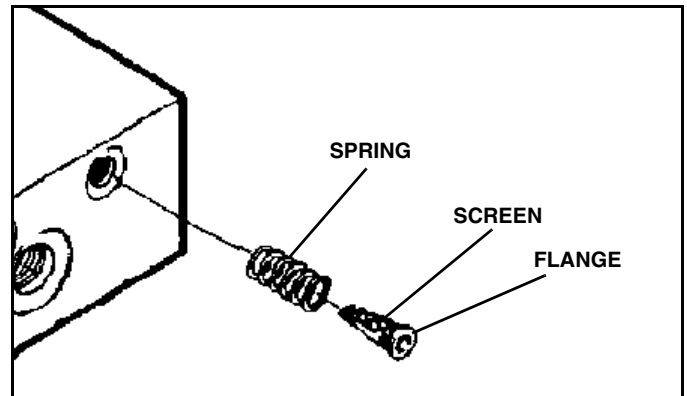

Figure 1-13
28. Remove bag of parts from power unit. Place spring, then screen, into ports C1, C2, C3 and C4. The flange on the screen should face the fitting, which will hold it in place. (See Figure 1-13).